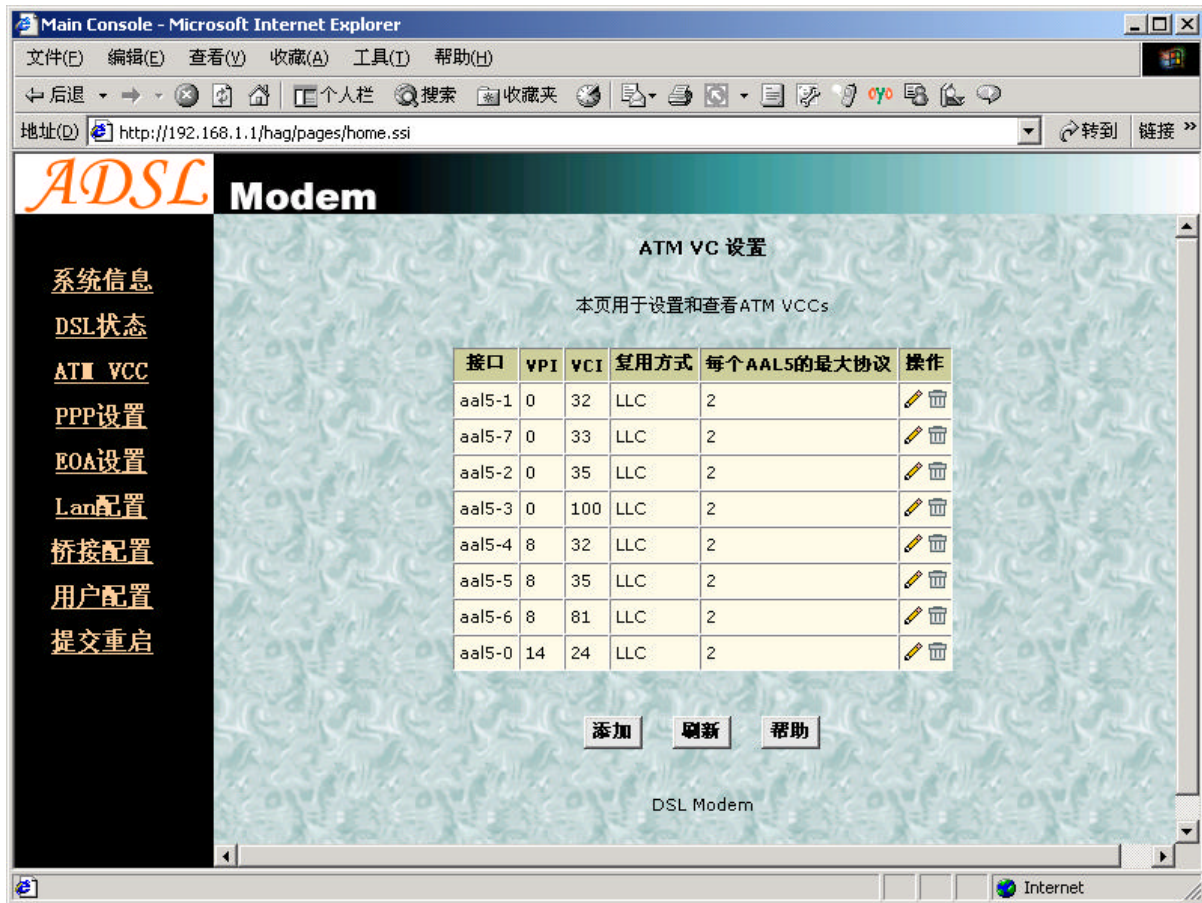

Figure 3.3
- Type number “0” in *VPI* item and “33” in the *VCI* item, then click “Submit” button. The result window is shown as Figure 3.3.